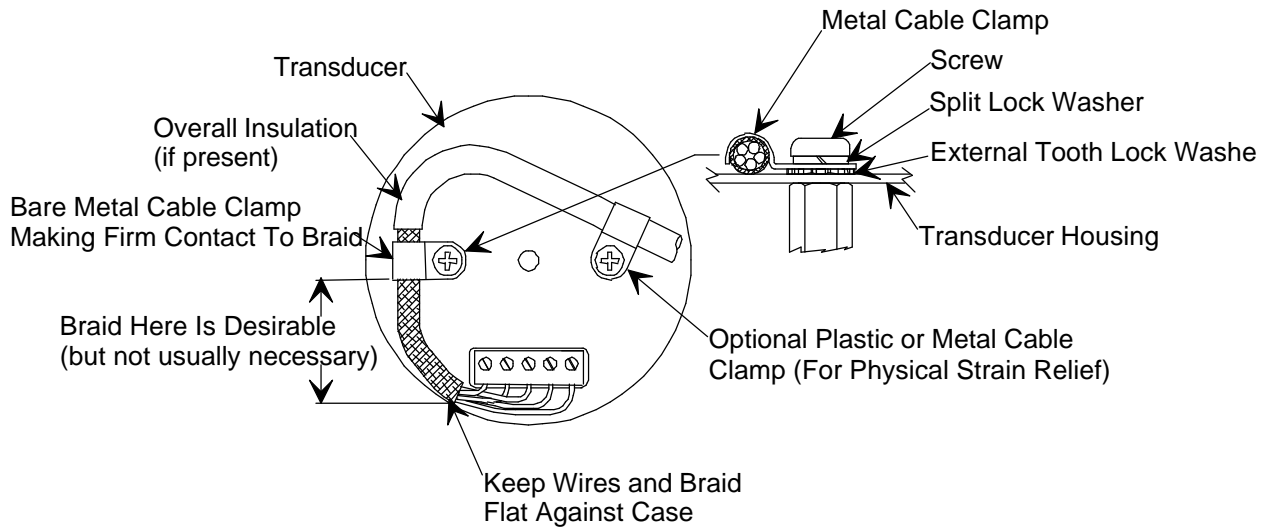

Figure 1: Preferred Method To Connect an Overall Metal Braided Shielded Cable
4. For shielded cables with flying leads at one or both ends; it is important at each such end, to ground the shield *before* the wires exit. Make this ground with absolute minimum length. Refer to Figures 1 and 2, page 15. (A ¼ inch piece of #22 wire may be undesirably long since it has approximately 5 nH of inductance, equivalent to 31 ohms at 1000 MHz). After picking up the braid's ground, keep wires and braid flat against the case. With very few exceptions, grounded metal covers are not required over terminal strips. If one is required, it will be stated in the Declaration of Conformity or in the instruction manual.